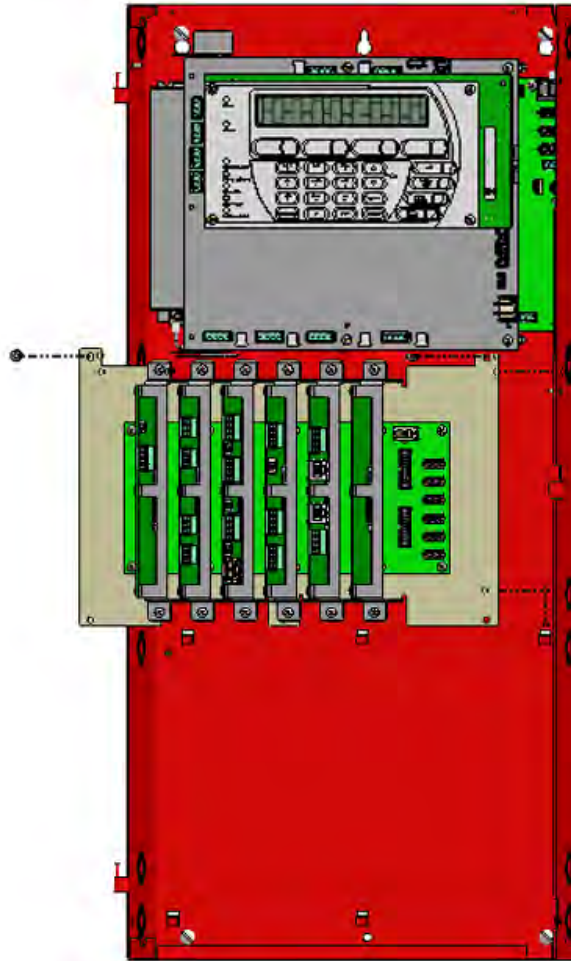

Figure 2-17. Installing the Expansion Card Cage
7. Orient the Card Cage as shown in Figure 2-17 below.